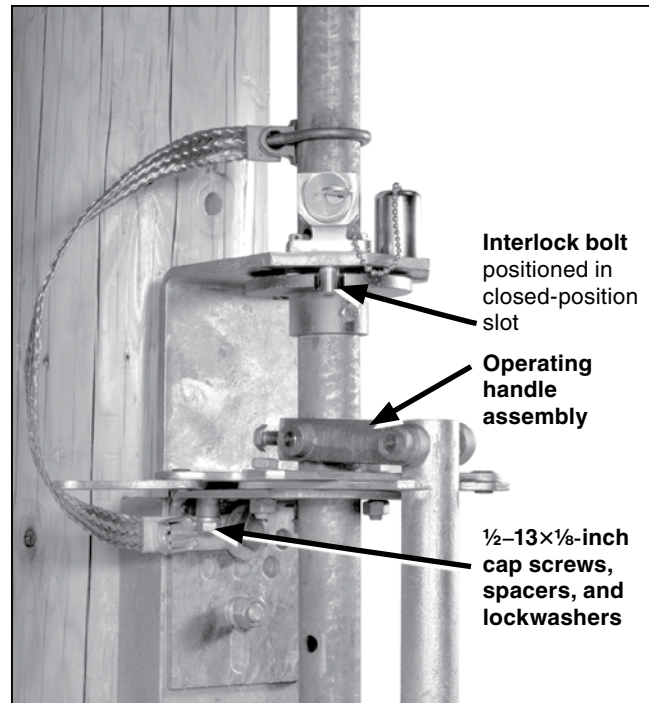

Figure 38. Fasten the operating-handle assembly.
STEP 36. Fasten the operating handle assembly to the lowest vertical operating-pipe section using the piercing set screws to secure the operating handle assembly. See Figure 38.